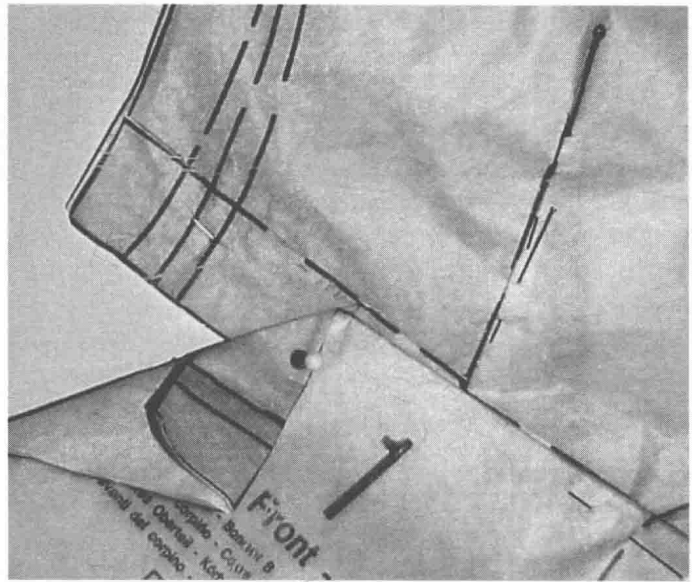

FIGURE 5.7 To facilitate the pinned pattern/tissue-fitting process, overlap seam allowances, matching stitching lines.
- Fold one seam allowance to the inside, clipping it if needed to lie flat. Lap it over the seam allowance on the matching pattern piece, with stitching lines matched (see Figure 5.7).